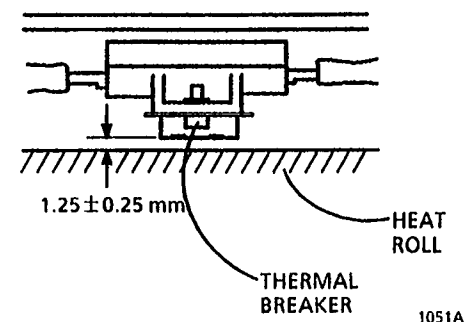

Figure 3. Showing the Thermal Breaker Clearance
1. (Figure 3): Ensure that the clearance between the thermal breaker and the heat roll is 1.25 ± 0.25 mm. If not, then look for damaged or defective components, which might affect this clearance.